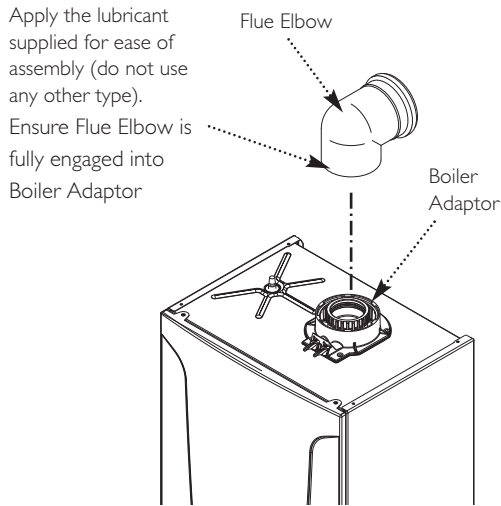

Fig. 29
11. Refit the elbow to the boiler adaptor, ensuring that it is pushed fully in (Fig. 29).